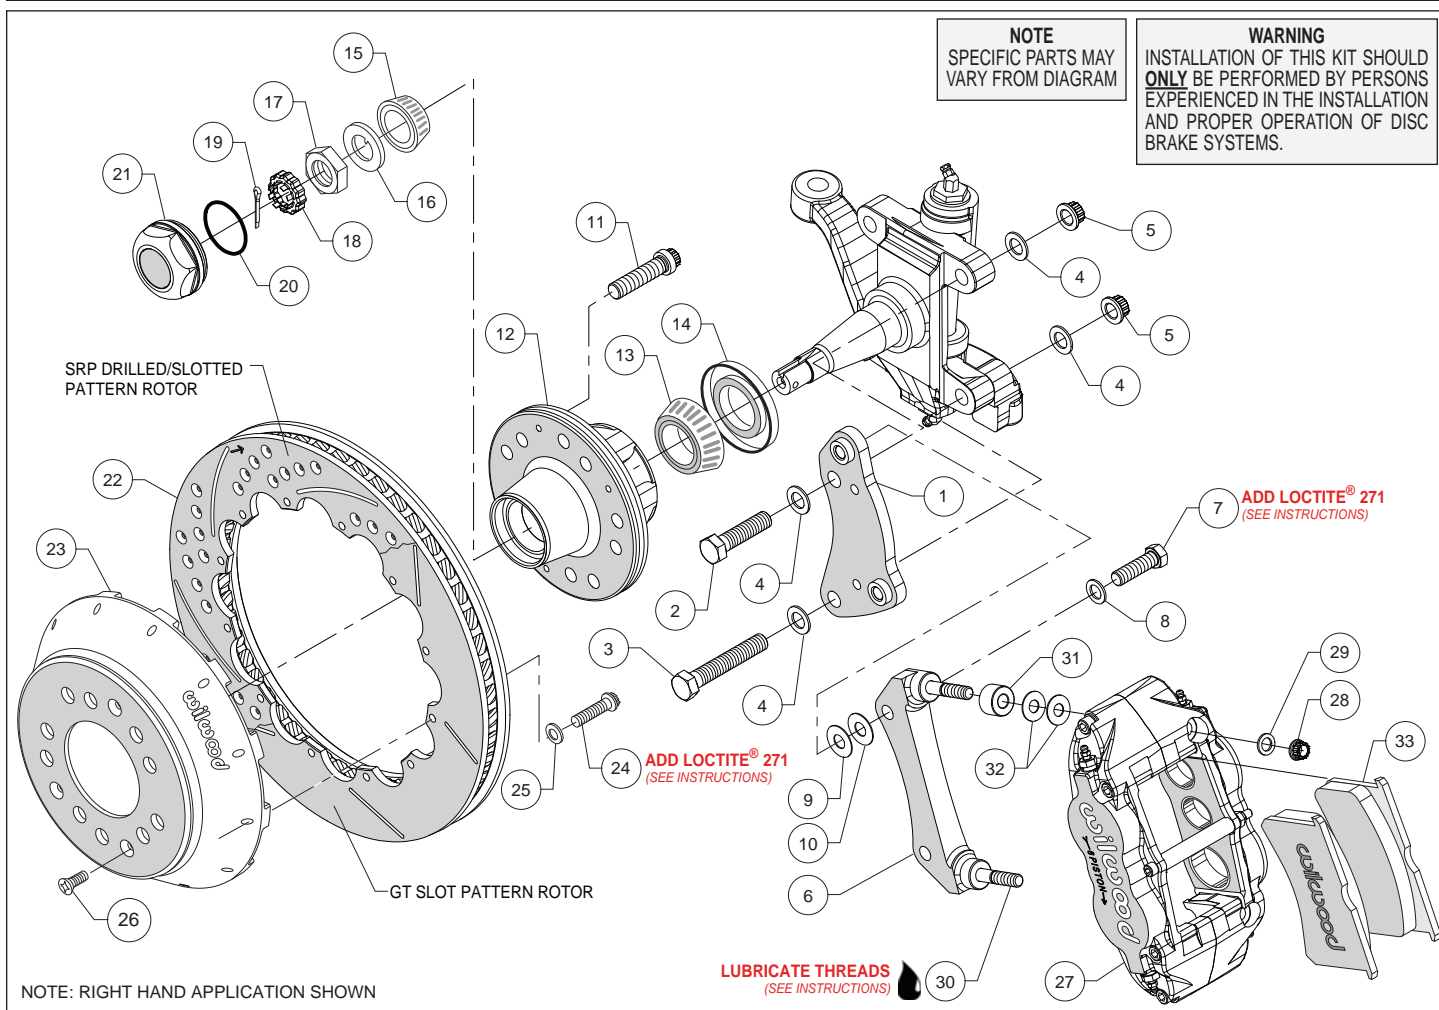
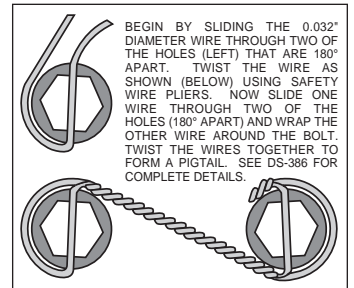
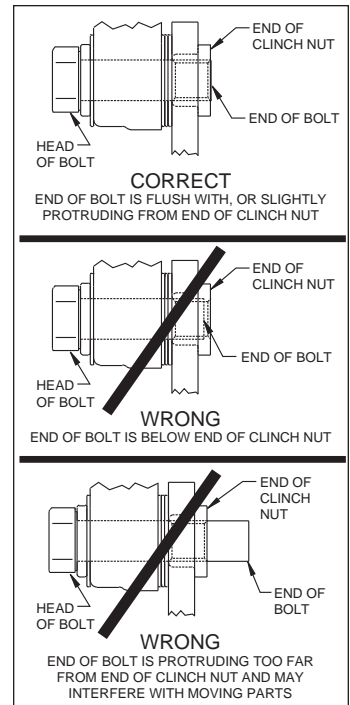

Figure 1. Typical Installation Configuration
Figure 3. Safety Wire Diagram
Figure 4. Clinch Nut Engagement Diagram
**Assembly Instructions** (numbers in parenthesis refer to the parts list, on the preceding page and Figure 1). **CAUTION:** All mounting bolts must fully engage clinch nuts. Be sure to check that all bolts are either flush or protruding through flanged side of clinch nut after shimming, Figure 4.
- Orient the spindle bracket (1) as shown in Figure 1 and Photo 1, and install using bolts (2 and 3), washers (4) and nuts (5). Temporarily tighten the mounting bolts. Ensure that the flanged heads of the clinch nuts in the bracket are facing outboard, Photo 1. **NOTE:** The bracket must fit squarely against the mount bosses on the upright. Inspect for interference from casting irregularities, machining ridges, burrs, etc. Torque lock nuts (5) to 65 ft-lb.
- The caliper mount radial bracket (6) should initially be installed with clean, dry threads on the mounting bolts. Orient the bracket as shown in Figure 1, and Photo 2. Install onto the spindle bracket using bolts (7), and washers (8). Initially place one .030 thick shims (9) on each bolt between the radial and spindle brackets, Figure 1. Temporarily tighten the mounting bolts. Later, after the caliper alignment has been checked, the mount bolts will be secured using red *Loctite*® 271.
- Screw dust cap (21) into hub (12), Photo 8. Friction created by the o-ring (20) on the dust cap keeps it from unscrewing. **NOTE:** *The O.D. of the existing OEM spindle washer may be larger than the I.D. of the dust cap not allowing it to seat against the hub face. Therefore, use the spindle washer (16) supplied with the kit instead of the OEM washer.*
- Orient the rotor (22) and the hat (23) as shown in Figure 1 and Photo 9. Attach rotor to hat using bolts (24) and washers (25). Using an alternating sequence, apply red *Loctite*® 271 to the threads, and torque to 155 **in-lbs**. For an added measure of security, the bolts may be safety wired using standard 0.032 inch diameter stainless steel safety wire as shown in Figure 3. Refer to Wilwood's data sheet DS-386 (available at [www.wilwood.com/Pdf/DataSheets/ds386.pdf](http://www.wilwood.com/Pdf/DataSheets/ds386.pdf)) for complete safety wire installation instructions.
- **NOTE:** *This kit contains distinct right and left hand calipers that must be mounted in a specific direction, as described below.* Lubricate the caliper mounting studs (30) with lightweight oil. Initially place one spacer (31) and two .035" thick shims (32) on each stud between the caliper and the bracket, as shown in Figure 1 and Photo 11. Mount the caliper (27) onto the bracket (6) using lock nuts (28) and washers (29), Figure 1. Ensure that the caliper is mounted so the largest pistons are at the rotor exit end of the caliper, in relation to the direction of rotor rotation. Temporarily tighten the lock nuts and view the rotor through the top opening of the caliper. The rotor should be centered in the caliper, Photo 12. If not, adjust by adding or subtracting shims (9 and/or 10) between the spindle bracket (1) and the caliper